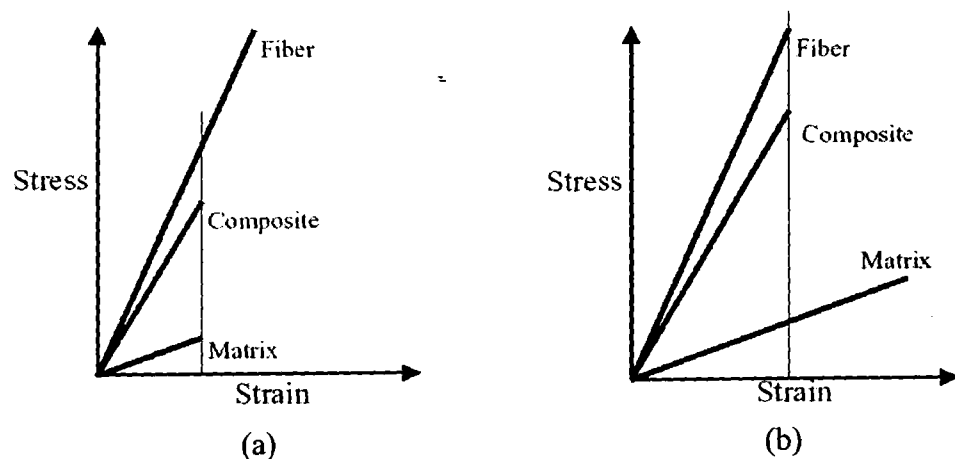

Figure 5(a)
5. (a) **Figure 5(a)** shows two types of stress-strain behaviors of a CFRP composite consisting of unidirectional carbon fibers and epoxy matrix. Discuss the behaviors of the material regarding the relative magnitudes of the ultimate tensile strains of the constituents and effects to the overall load distribution and energy absorbing capabilities of the composites.